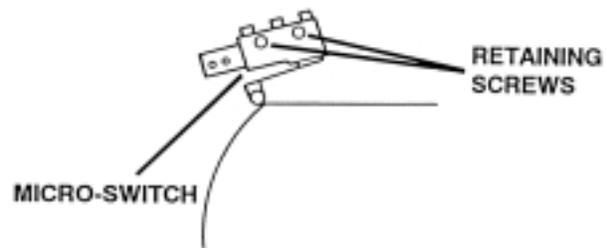

Figure 5-17. Micro-Switch Adjustment.
2. Carefully loosen the switch retaining screws, and adjust the switches as needed. See figure 5-17.